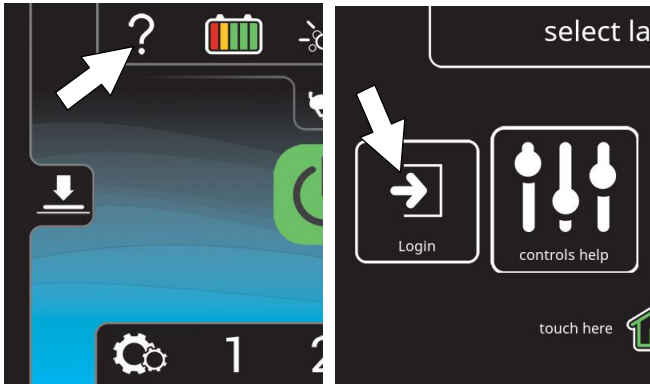

FIG. 182
2. Press the help button and log into the machine as supervisor mode (Figure 182). See *Entering the Supervisor Mode*.